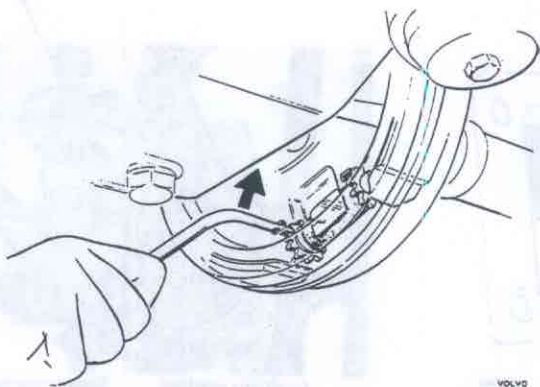

Fig. 43-23. Adjusting brake shoes
6. Adjust out one of the brake shoes with a screwdriver (Fig. 43-23) until it is just possible to rotate the drum with the rear end jacked up. Slacken the adjuster screw until the drum rotates freely, but maximum five teeth. Adjust the other brake shoe in the same way.